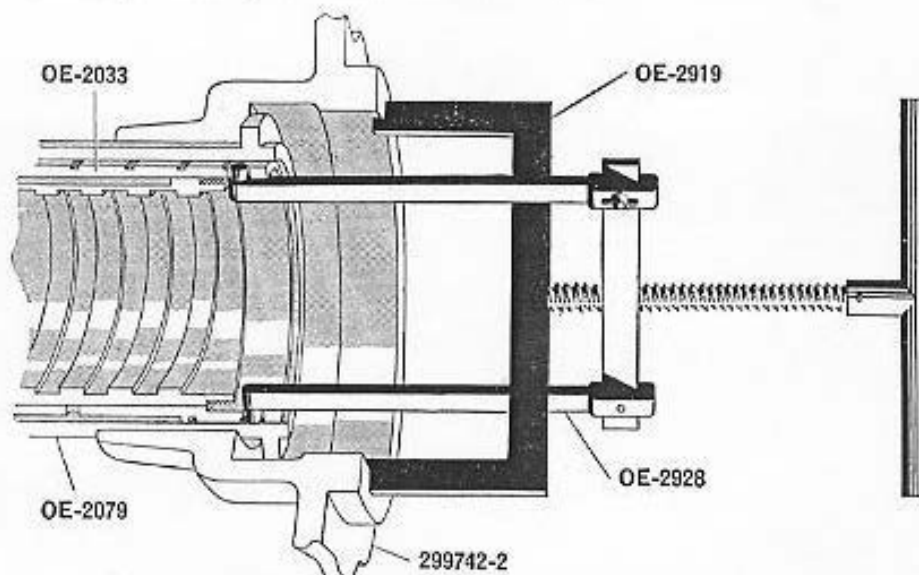

Figure 10—Removing column lower bearing bushing (OE-2033) from column (OE-2079)
25. Remove the column lower bushing (OE-2033) and the bronze key (OE-2085) and screws (OE-2247) from the lower end of (OE-2079). Use puller (OE-2928) and tool (OE-2919) as shown in Figure 10. Hook the lugs that are on the lower ends of puller (OE-2928) into the holes in the column lower bearing bushing (OE-2033). Place special tool (OE-2919) on the lower end of the fixed pedestal casing (299742-2) and exert pressure with the center screw.